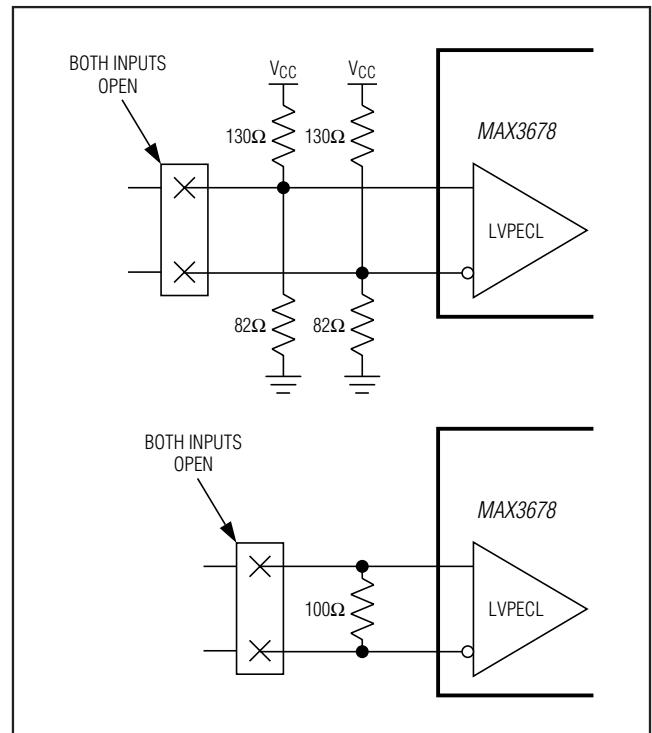

Figure 7. Positions for Open-Circuit Detection
- B) Both inputs ( $\overline{\text{REFCLKx}}$ ,  $\overline{\text{REFCLKx}}$ ) are disconnected from the source and have the following terminations connected: (a) 100 $\Omega$  differential, (b) 130 $\Omega$  to VCC and 82 $\Omega$  to GND at each input. See Figure 7 for positions of open circuits that can be detected.